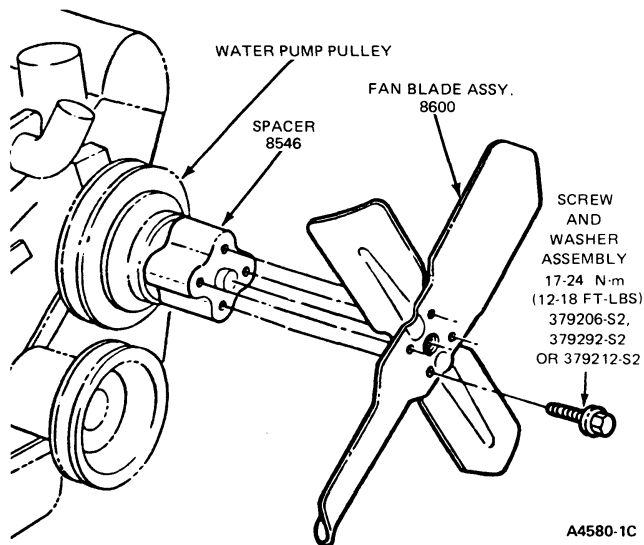

FIG. 8 Fan Blade Installation F-100—F-350
4. Remove the cooling fan, spacer, water pump pulley and fan drive belt (F-100—F350 shown in Fig. 8).
13. Install the water pump pulley, spacer, cooling fan and drive belt. Tighten the fan bolts to specifications. See Fig. 8 for F-100—F-350 installation.